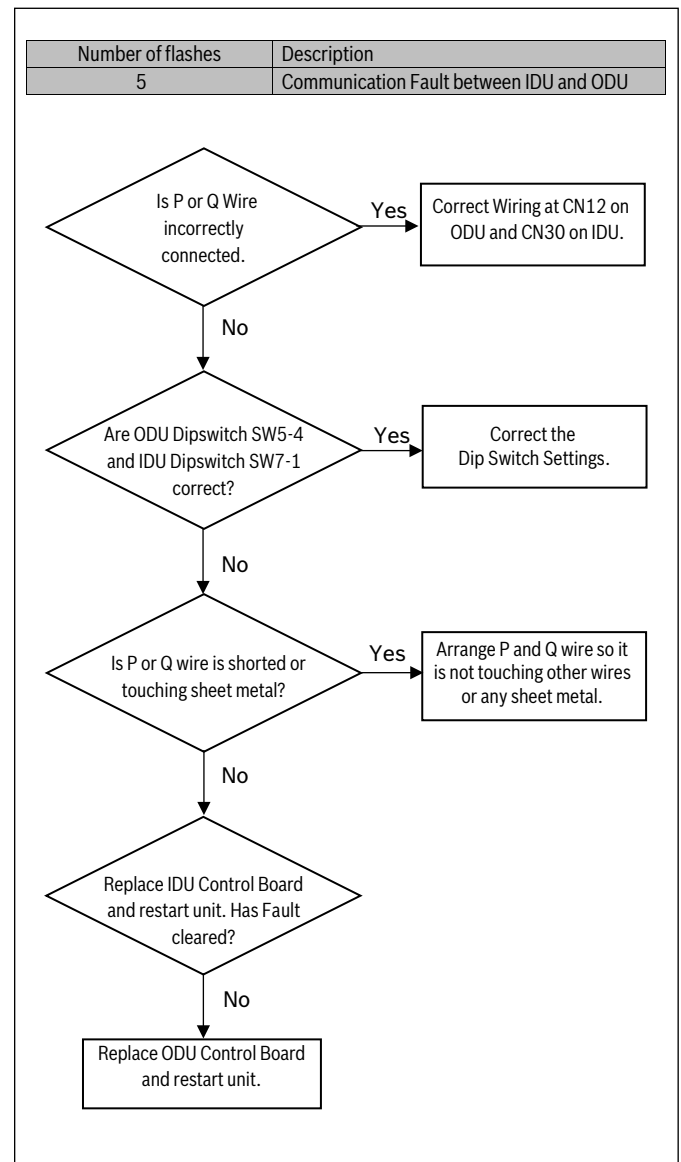

Figure 87
5. Check all electrical wiring and connections. Correct as needed, referring to the wiring diagram. (Refer to Figure 87)